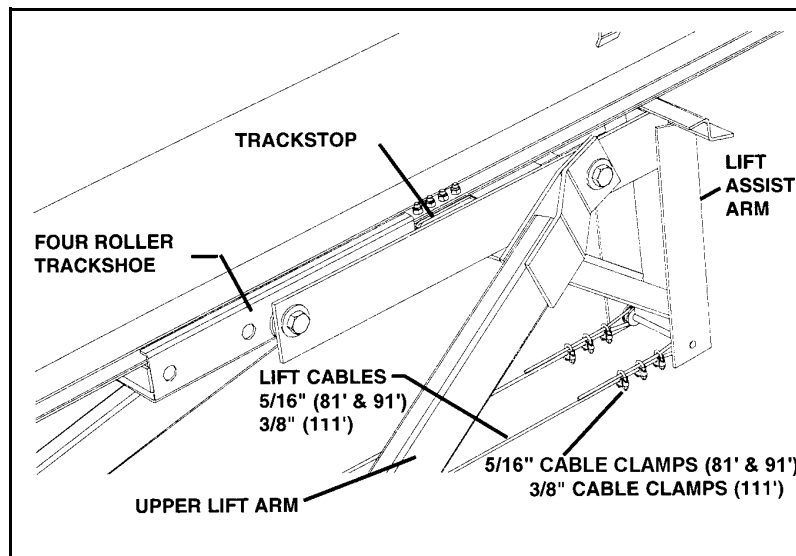

Figure 3.40
2. Thread the lift cables over the respective pulleys on the lift-assist arm, pull cables tight, and secure with three 5/16" (3/8" on 111') cable clamps on each cable. Tighten securely. Do not crisscross cables (Figure 3.40).